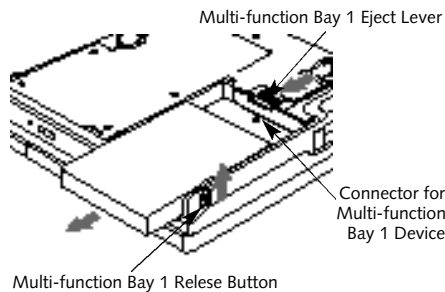

Figure 4-2 Removing and Installing a Device in Multi-function Bay 1
5. While holding the release button in the release position use the Multi-function Bay 1 Eject lever on the bottom of your notebook (Figure 4-2) to push the device toward the front of your notebook until the connector is disconnected.
5. Align the grooves on the side of the device with the tracks in the side of the bay. (Figure 4-2.)